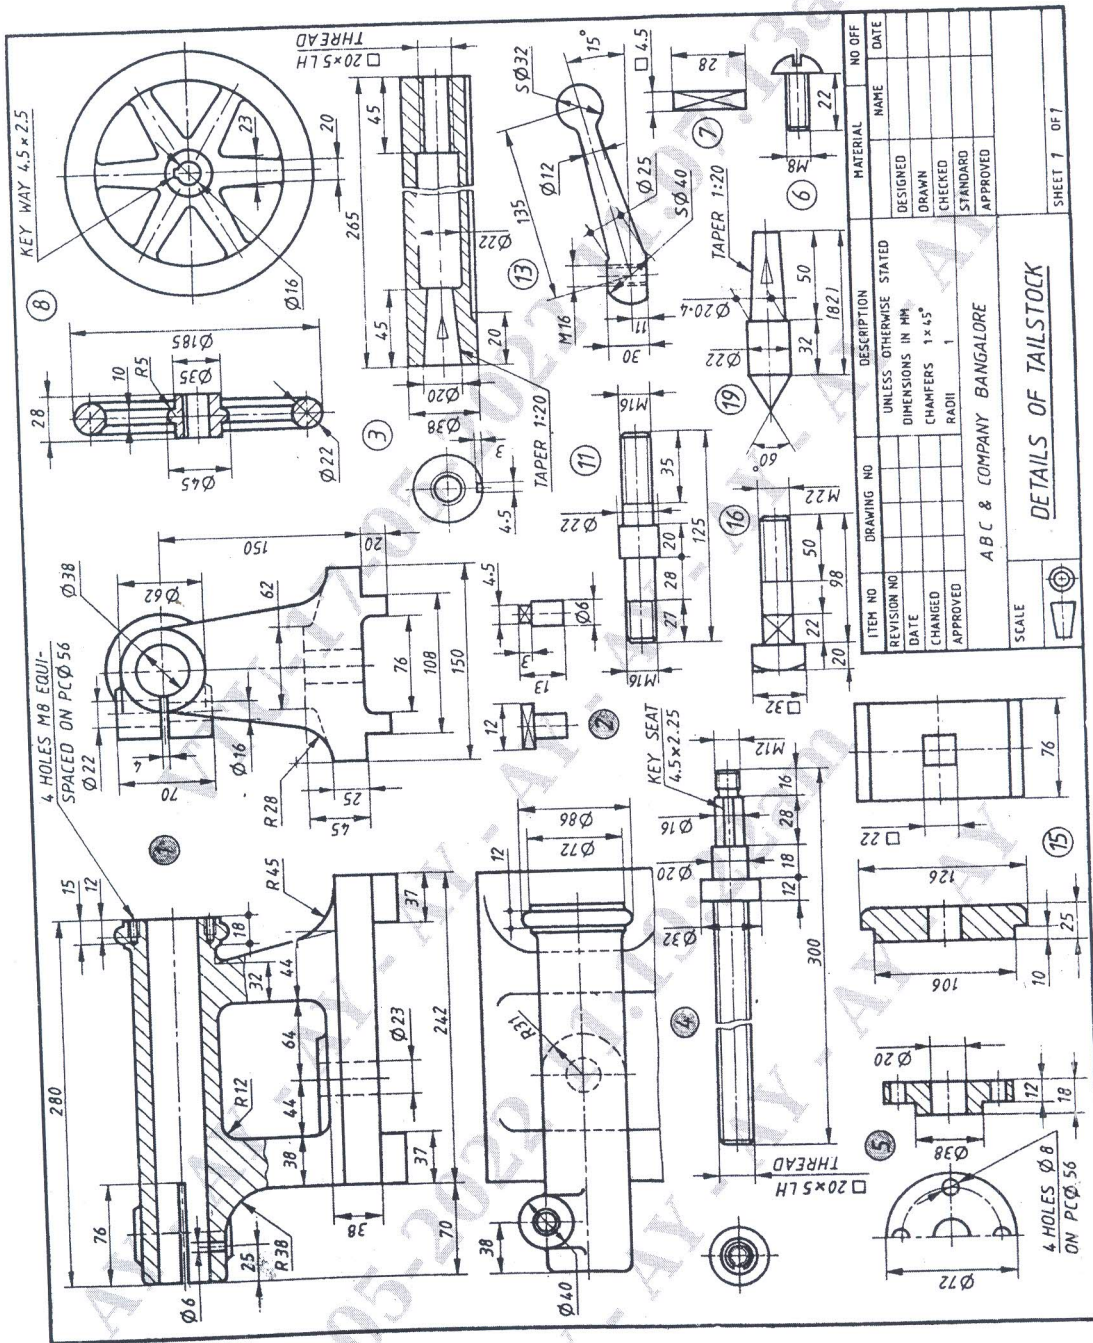

Figure 3 : Details of a tail stock
6. Figure 3 shows the part drawing of a tail stock. Assemble the tail stock and show the following views.